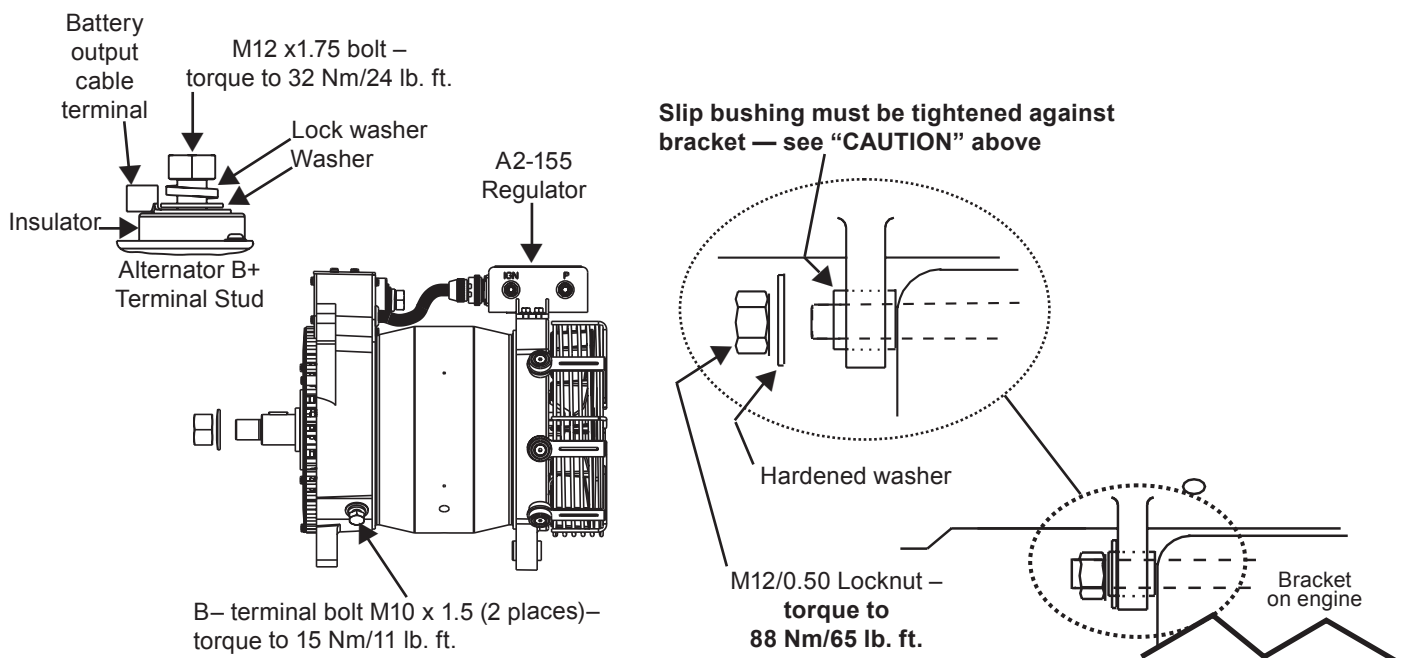

Figure 1—C714 Alternator Installation Details
- 1. Install alternator as shown in Figure 1: